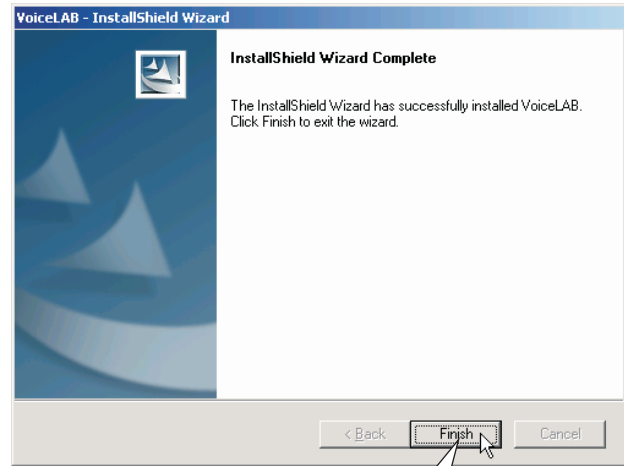

Figure 23
- If appears following picture, click Finish, the quick way of starting software will produce automatically on the desktop, the icon name is VoiceLAB, as shown in figure 23: